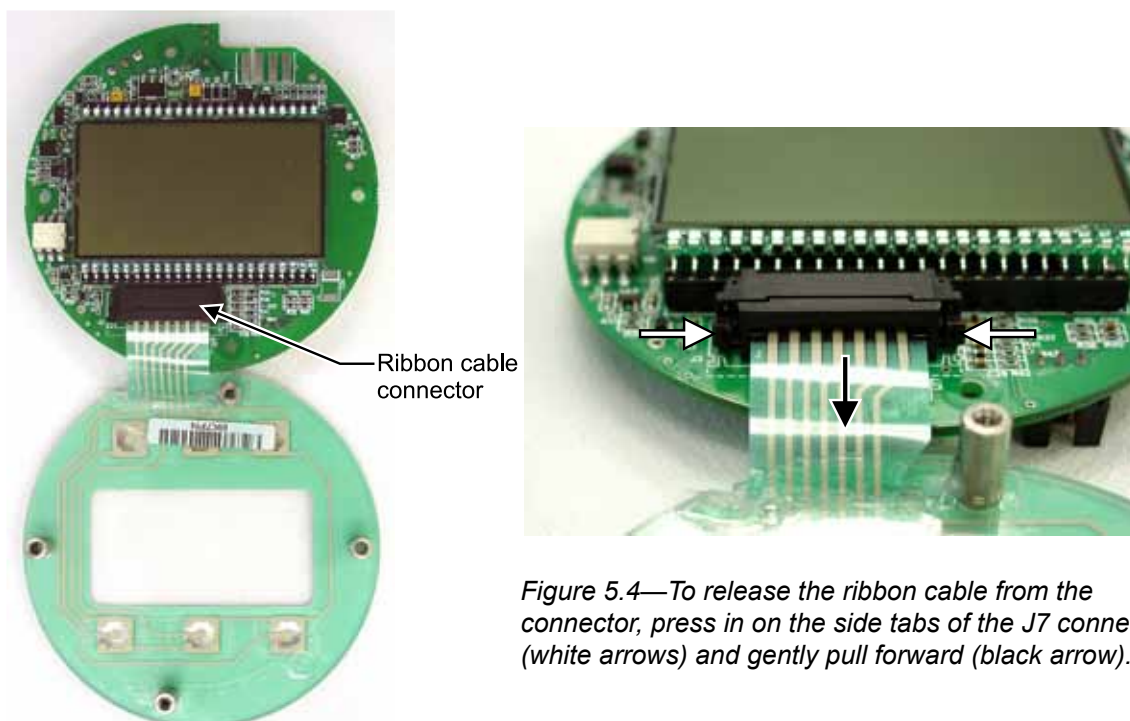

Figure 5.4—To release the ribbon cable from the connector, press in on the side tabs of the J7 connector (white arrows) and gently pull forward (black arrow).
10. Remove the keypad ribbon cable from the J7 connector on the LCD side of the circuit board by pressing in on the sides of the black plastic clip and pulling gently on the clip. Do not pull on the ribbon cable; the cable will release freely when the clip opens (Figure 5.4, page 80).
- a. Grasp the black clip between a thumb and forefinger (Figure 5.4, page 80).